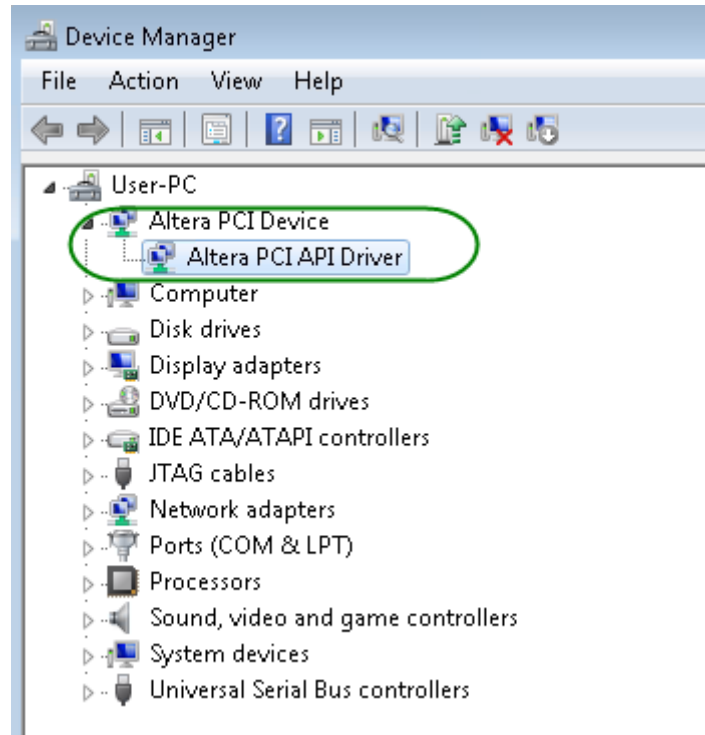

Figure 7-11 Screenshot for PCIe Driver
5. Make sure the Windows has detected the FPGA Board by checking the Windows Control panel as shown in **Figure 7-11**.